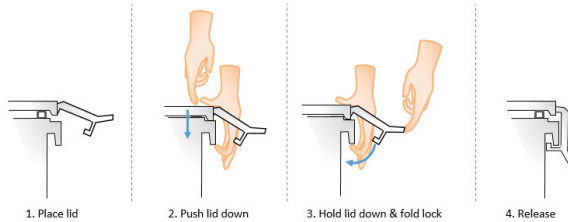

Figure 18: Closing the outer lid.
- Close the reservoir with the two separately packed sterile lids. First place the inner lid and then the outer lid (figure 8, items 2 and 1). Fold the lock around the edge of the reservoir to lock the outer lid at the reservoir (figure 18).